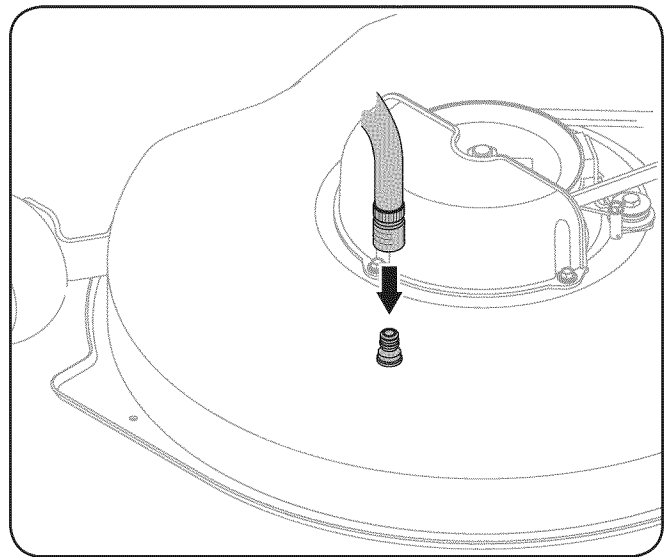

Figure 17
4. Attach the hose with hose coupler to the water port on the cutting deck surface. See Figure 17.